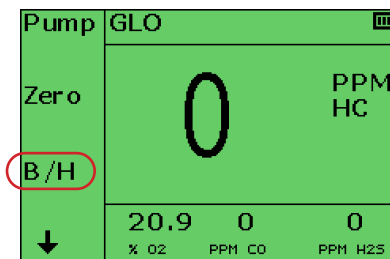

Figure 27: B/H button
2. Press **B/H** button (as shown in Figure 27: B/H button)